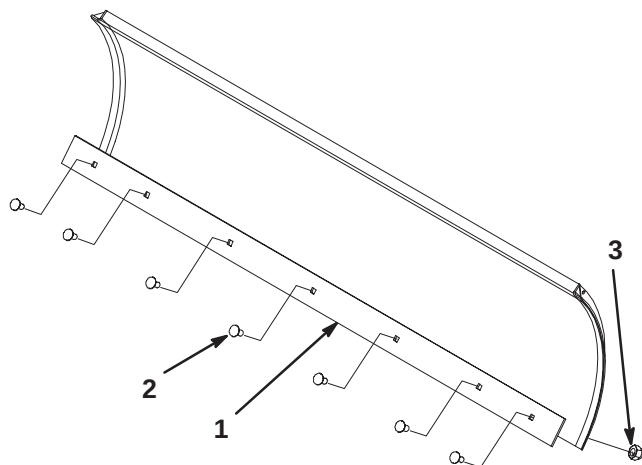

Figure 21
2. Remove the carriage bolts and locknuts securing the scraper (Fig. 21).
3. Reverse the scraper and install it with the previously removed hardware (Fig. 21).